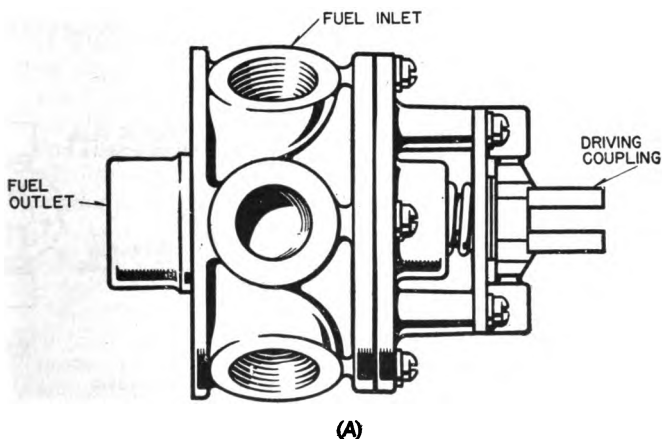

Figure 20.—Fuel-selector valve.
In figure 20, view (A), you will see an outside view of a commonly used type of selector valve. The central rotating section, or plug, of the valve is connected through a flexible joint and a rod to the dash unit, an example of which is shown in view (B). Fuel enters the valve either through a port at the side or at the center of the rear of the housing, according to the design of the instrument. When the selector lever on the dash is in the off position, the inlet of the valve is not connected to any outlet, and no gasoline flows from the tanks. This position is shown in view (B).